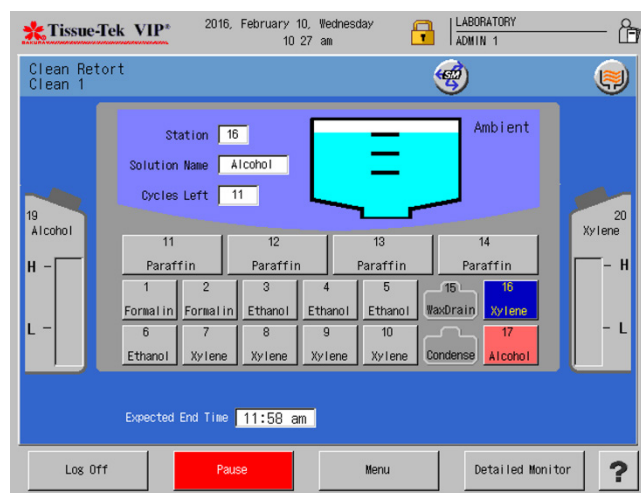

Figure 4-0
- The Clean Retort Overview Monitor Screen displays (Figure 4-0).